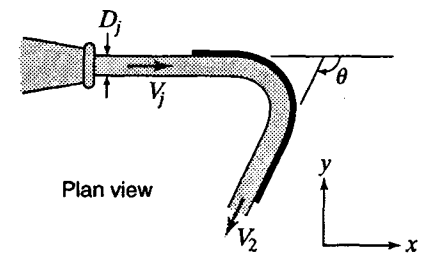

Figure X6.6.6
6.6.7 Refer to Fig. X6.6.6. Assume that friction is negligible, that  $\theta = 115^\circ$ , and that the water jet has a velocity of 25 m/s and a diameter of 40 mm. Find (a) the component of the force acting on the blade in the direction of the jet; (b) the force component normal to the jet; and (c) the magnitude and direction of the resultant force exerted on the blade.